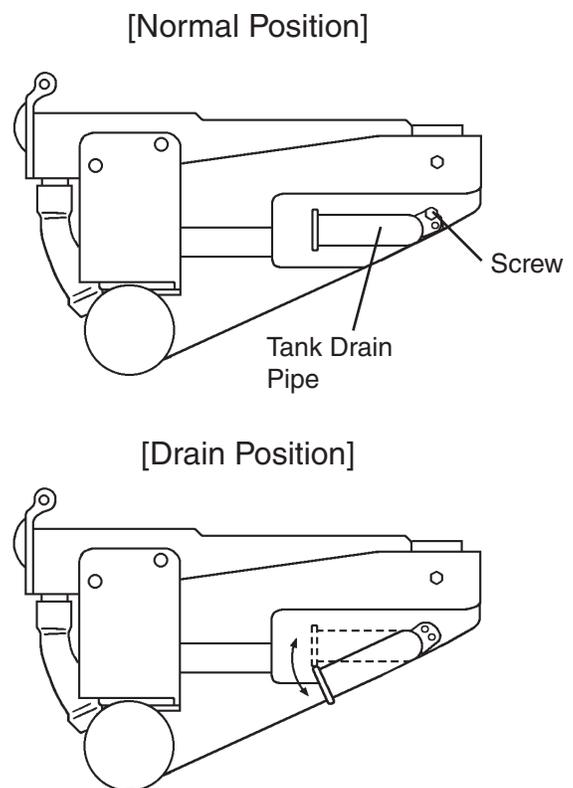

Fig. 5
- 5) Remove the screw and then move the water tank drain pipe to the drain position. See Fig. 5. Use the screw to secure the water tank drain pipe in the drain position.
- 20) Remove the screw and then move the water tank drain pipe to the normal position. See Fig. 5. Use the screw to secure the water tank drain pipe in the normal position.